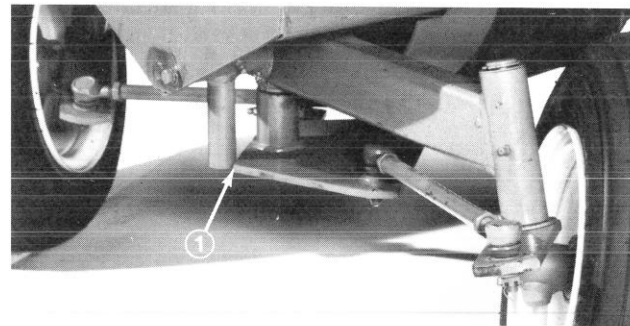

Figure 68
4. Turn steering wheel completely to the right until it bottoms out in steering gear box. Check steering plate with respect to stop on rear axle pivot (Fig. 68). Steering plate must contact the stop. If parts do not contact, loosen jam nuts on rear steering rod (Fig. 69). Shorten the rear steering rod until steering plate contacts the stop while steering wheel is locked for a full right turn (Fig. 68).